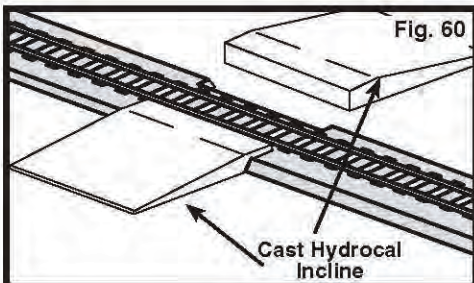

Fig. 60
2. Test fit Hydrocal Inclines in Track-Bed notches. Top of Inclines must be level with top of rails (**Fig. 60**). Spread a layer of Foam Tack Glue on bottom of Incline and on Plaster Cloth where Incline will be placed. Set Incline in place and hold until setting begins. **NOTE:** The angled Incline should be placed in position "C" (**Fig. 58**).